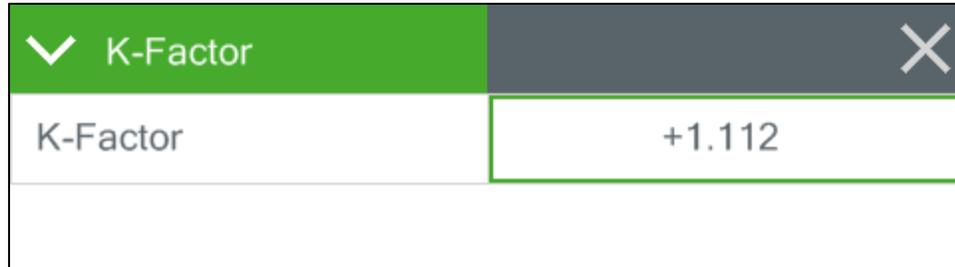

Figure AR-26. BAM 1022 K-Factor Screen
11. Request the operator to press the CONTINUE button for display of the K-Factor (Figure AR-26).